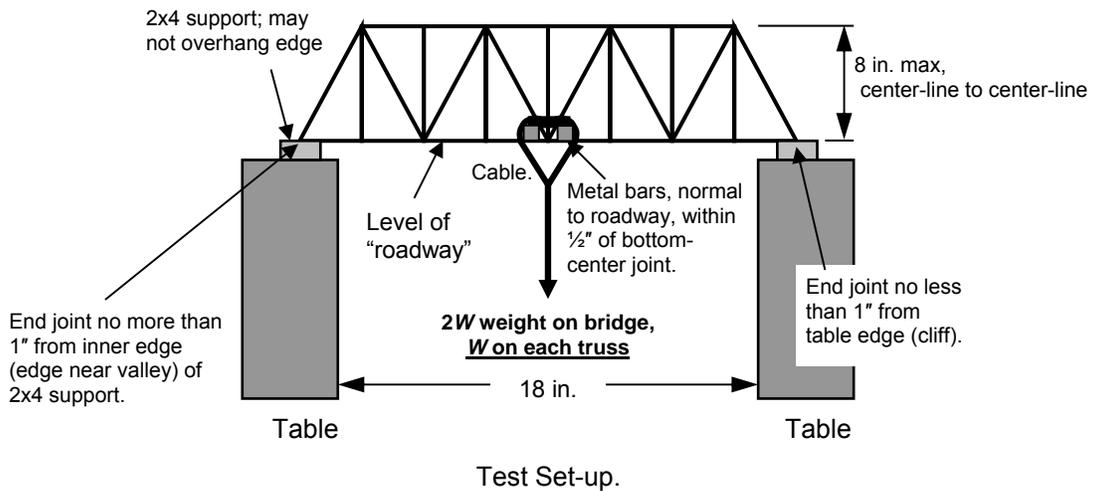

Figure 3: Test set-up. Side view of bridge. Not to scale.
4.3. Supports (see **Figure 3**)
4.4. Load (see **Figure 3**)